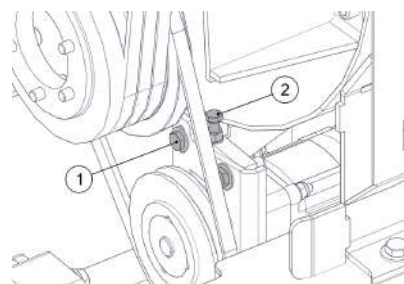

Figure 29 - Pump belt adjustment
2. Loosen the two M10 bolts on the hydraulic pump mounting pad (Figure 29, Item 1).
3. Loosen the M8 lock nut on the drive belt tensioning bolt (Figure 29, Item 2).